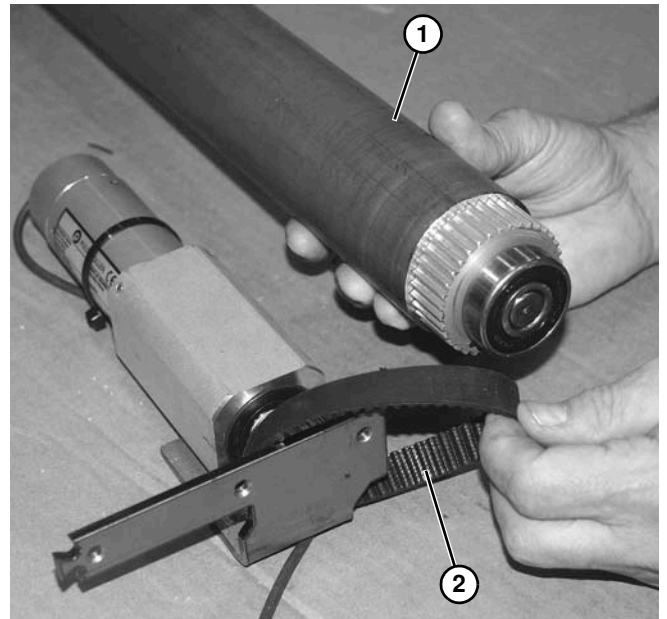
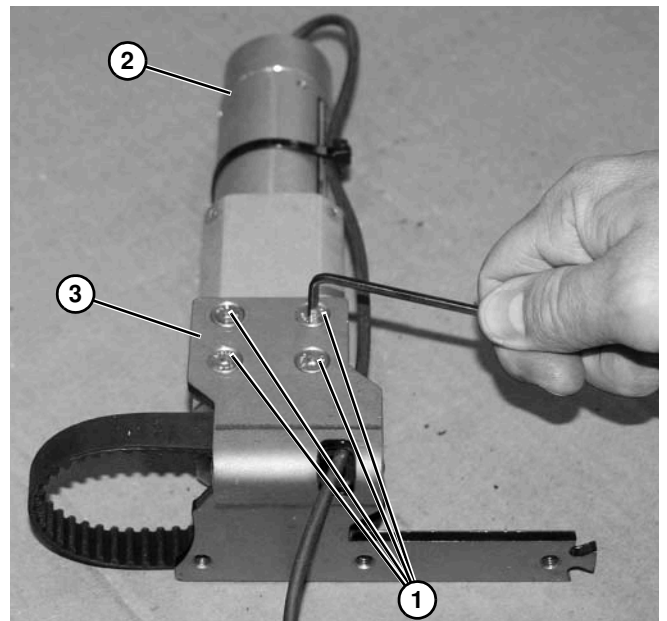

Figure 102
Figure 103
8. Remove pulley (**Figure 102, item 1**) off of timing belt (**Figure 102, item 2**).
9. Remove four screws (**Figure 103, item 1**) securing motor (**Figure 103, item 2**) to motor mounting bracket (**Figure 102, item 3**).